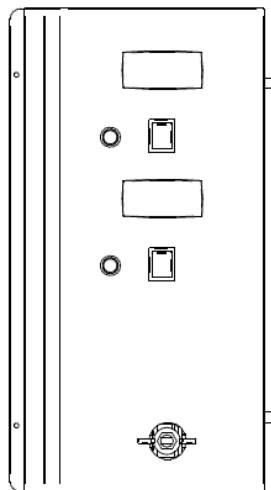

Fig. 1
- Open the tap water load available in the control panel or press the load button water on the dashboard (Fig. 1), fill in tank at least (about 2 or 3 cm fund).
- Press the switch resistance of the Glass Ceramic turning the knob clockwise A, B or C on the front of the machine of Figure 1 until the first jump. In this way the lamp on the top of the